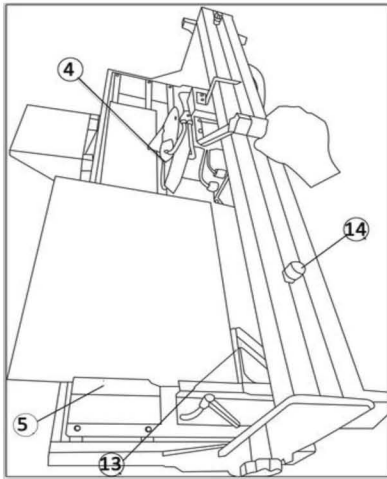
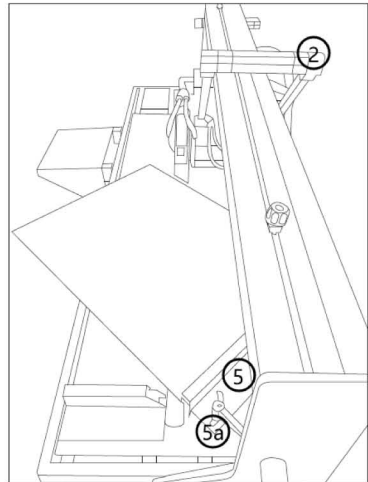

Fig.7
Fig.8
• Performing a 90° parallel cut (Fig.7)
1. Loosen the knob of the angle guide (13) and set the angle to 0°. Re-tighten it.
2. The set cutting width can be read from the scale on parallel guide (5).
3. Push the work piece to be cut with the outer edge tight against the parallel (5) of the wok piece support and against the angle guide (13)
5. Fix the work piece with one hand, and with the other hand hold the handle (2) of the cutting head and guide the cutting wheel slowly in the arrow direction and evenly through the work piece during the cutting process.
• Performing an angle cut (Fig.8)